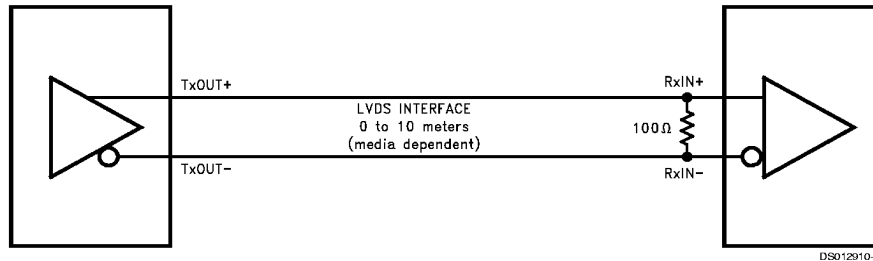

FIGURE 19. LVDS Serialized Link Termination
**TERMINATION:** Use of current mode drivers requires a terminating resistor across the receiver inputs. The CHANNEL LINK chipset will normally require a single 100Ω resistor between the true and complement lines on each differential pair of the receiver input. The actual value of the termination resistor should be selected to match the differential mode characteristic impedance (90Ω to 120Ω typical) of the cable. Figure 19 shows an example. No additional pull-up or pull-down resistors are necessary as with some other differential technologies such as PECL. Surface mount resistors are recommended to avoid the additional inductance that ac-